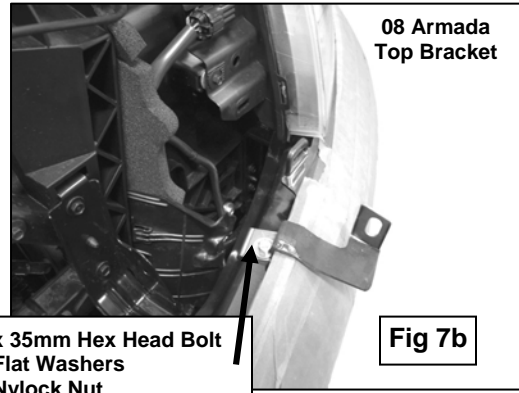

Fig 7b
- 08 Armada:** There are two plastic fasteners on each side of the top inner side of the bumper. Remove the outer plastic fastener on each side, (the one closer to the lights). Attach driver side Top Support Bracket using the included (1) 8mm x 35mm Hex Head Bolt, (2) 8mm Flat Washers, and (1) 8mm Nylock Nut, **(Figure 7b)**. Do not tighten at this time. Repeat this step for passenger side.